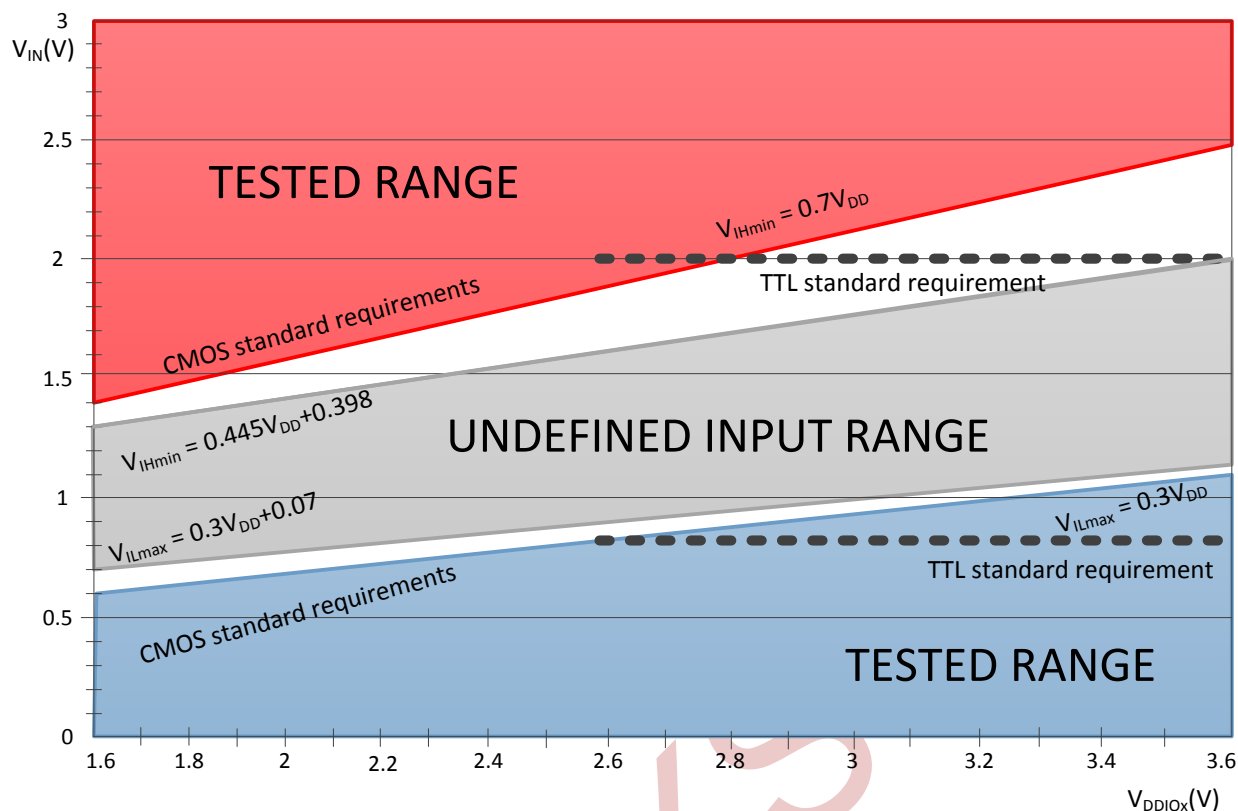
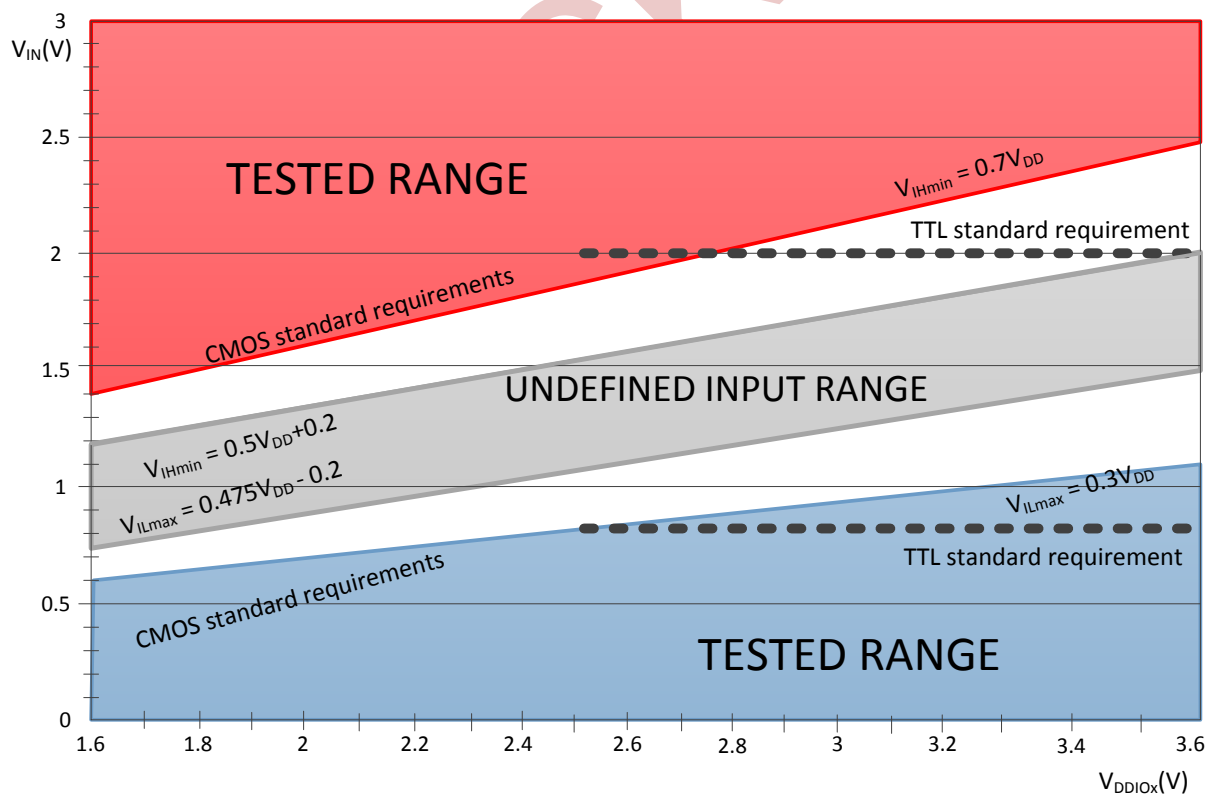

Figure 17. TC and TTa I/O input characteristics
Figure 18. Five volt tolerant (FT and FTf) I/O input characteristics
All I/Os are CMOS and TTL compliant (no software configuration required). Their characteristics cover more than the strict CMOS-technology or TTL parameters. The coverage of these requirements is shown in *Figure 17* for standard I/Os, and in *Figure 18* for
The definition and values of input/output AC characteristics are given in *Figure 17* and *Table 47*, respectively.
3. The maximum frequency is defined in *Figure 17*.